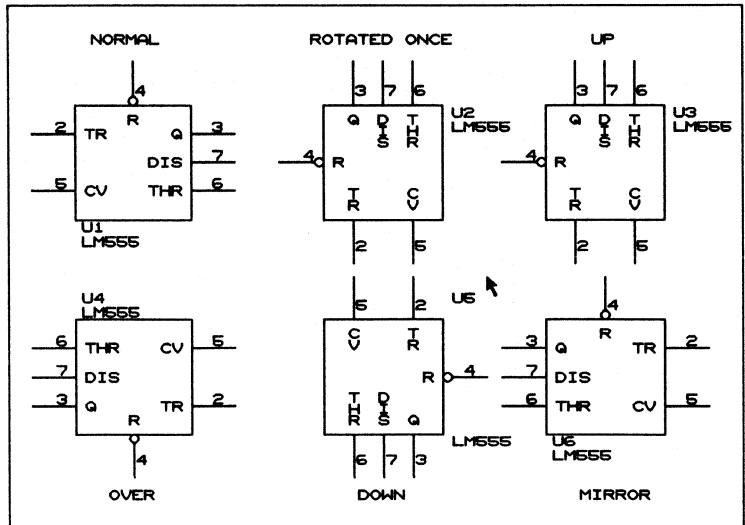

Figure 2-7. Normal, Rotated, Up, Over, Down, and Mirrored positions.
- Normal** Select **Normal** to rotate an object to its original position, as shown in the library (figure 2-7). This command also returns mirrored or converted parts to their original form.
- Up** Select **Up** to turn an object 90° counterclockwise (figure 2-7). This is equivalent to rotating it once from its normal position.
- Over** Select **Over** to turn an object 180° counterclockwise (figure 2-7). This is equivalent to rotating it twice from its normal position.
- Down** Select **Down** to turn an object 270° counterclockwise (figure 2-7). This is equivalent to rotating it three times from its normal position.
- Mirror** Select **Mirror** to get a mirror image of an object (figure 2-7).